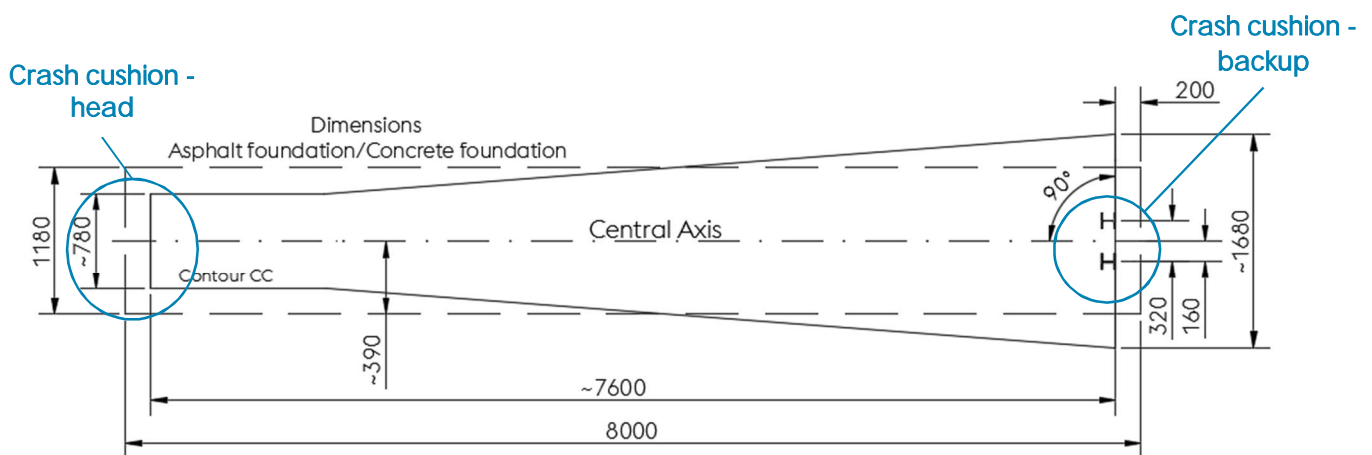

Figure 1
- The total layer thickness of all installed asphalt layer thicknesses or concrete thicknesses must not be less than 20 cm. This applies to an area corresponding to the contour of the crash cushion according to Figure 1 plus an enlargement on all sides of at least 20 cm. For smaller thicknesses, the procedure must be coordinated with the manufacturer in each case.
The middle axis of the crash cushion and the perpendicular axis of the two I120 posts (see Figure 1) must be